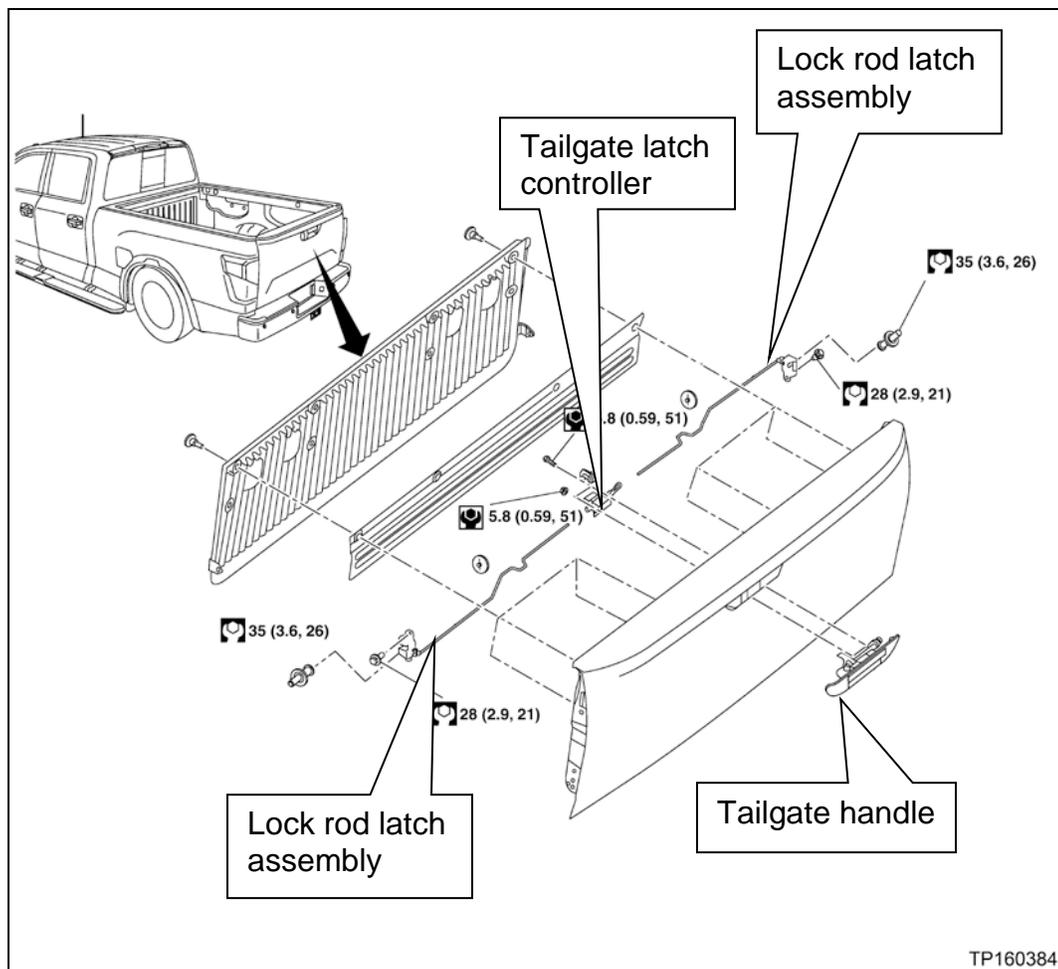

Figure 1
1. Remove the below listed components as per the Electronic Service Manual (ESM), section **DLK – Door & Lock** for removal and installation information (Figure 1).